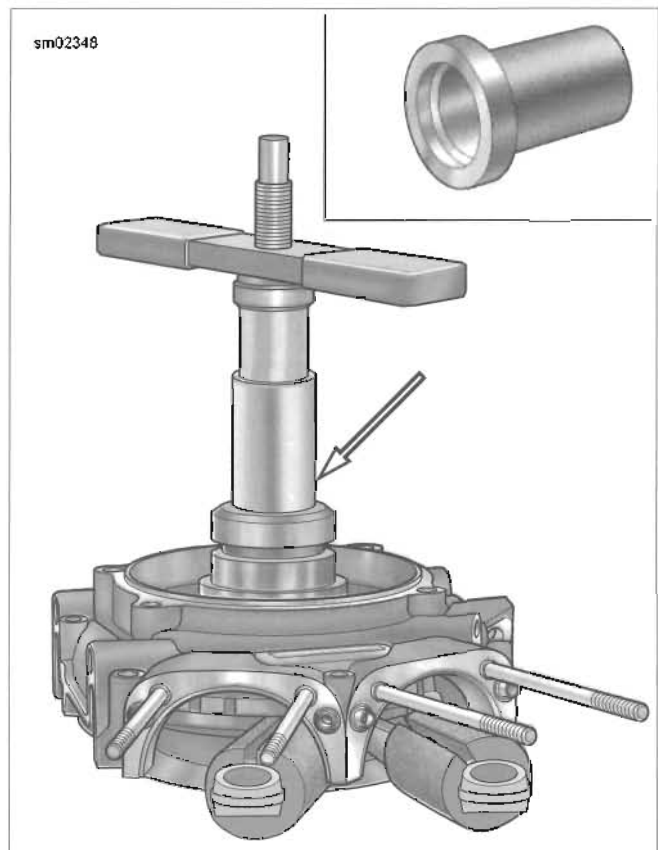

Figure 3-168. Sprocket Shaft Oil Seal Installer
12. See Figure 3-168. Install **new** oil seal into bearing bore. Obtain pilot adapter, pilot shaft, short collar, bearing, large flat washer and handle from SPROCKET SHAFT BEARING INSTALLER (Part No. HD-97225-55C).